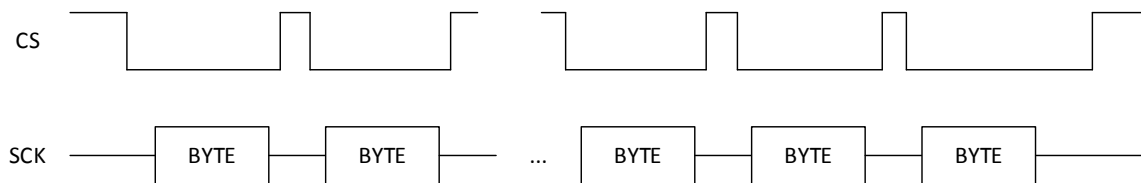

Figure 2.5-4. CS de-assert mode
- A configurable option to control CS de-assertion between byte transfers is available. The SPI master controller supports a special transmission format called CS de-assert mode. Figure 2.5-4 illustrates the waveform in this transmission format.